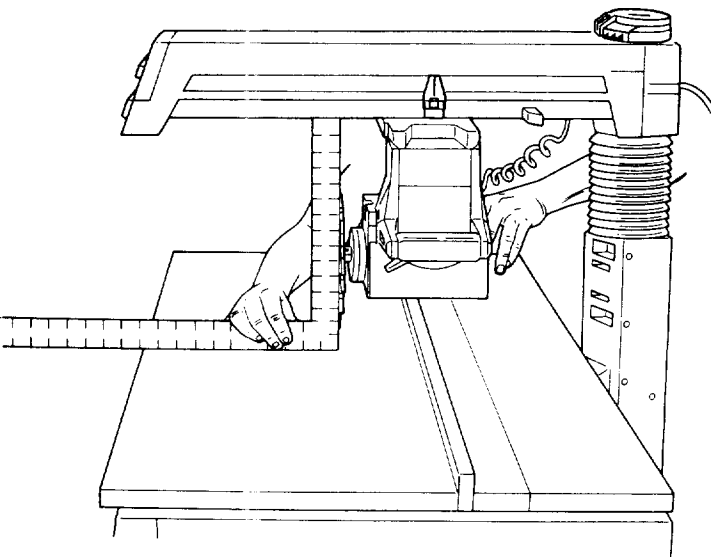

Fig. 74
3. Place the long edge of the framing square on the *table* and the short edge against the *blade* alongside the *arbor shaft*. Make sure the square is against the surface of the *blade* and not on the set of a tooth. (Figure 74)